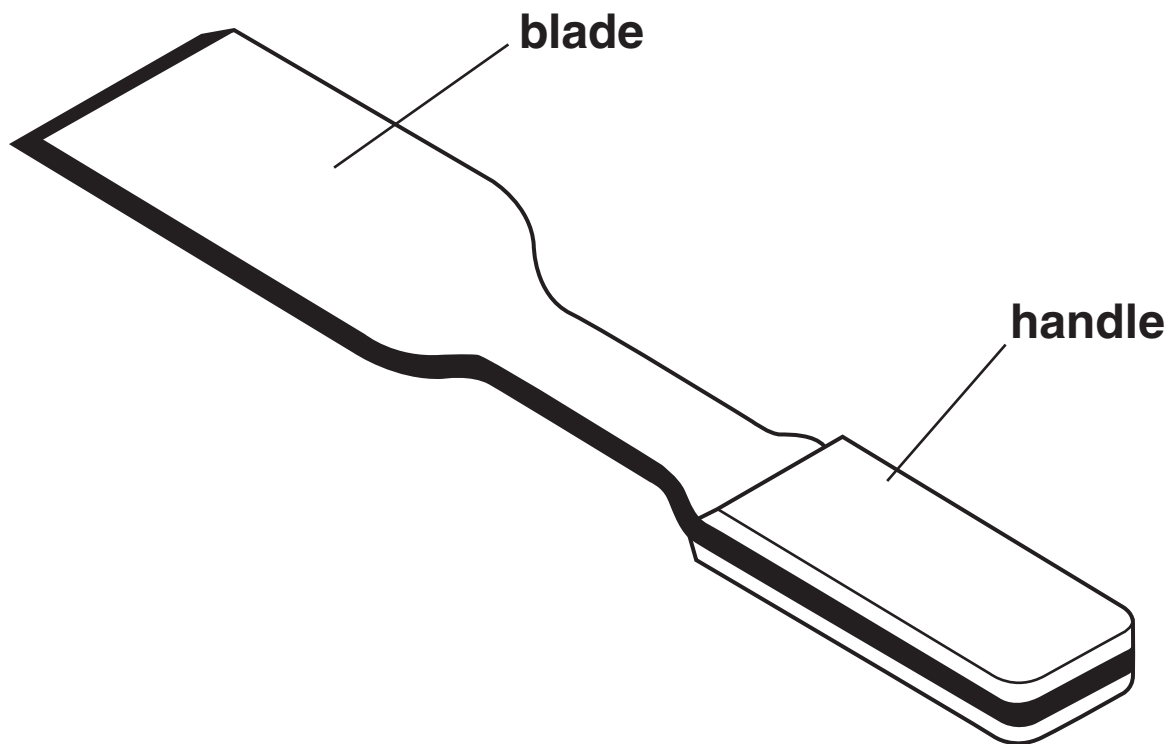

Fig. 1
- 1 Fig. 1 shows a spatula made from three separate pieces of hardwood.
- (d) From the list below, circle the production method used to make 25 of the spatula shown in Fig. 1.